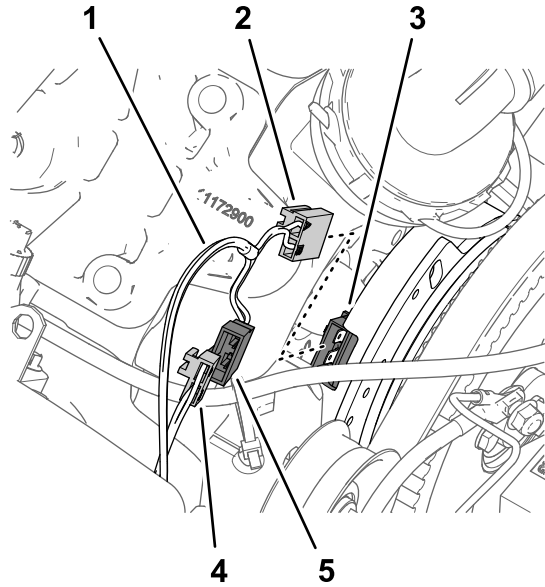

Figure 208
2. Connect the 2-pin connector of the kit sprayer harness branch—84 cm (33 inches) into the 2-socket connector of the machine wire-harness labeled SPRAY PUMP COIL (Figure 208).
3. Connect the 2-socket connector of the kit sprayer harness into the 2-pin connector of the pump clutch (Figure 208).